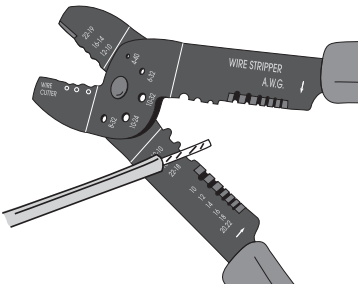

figure 3
1. Strip wires over 1 cm (½ inch) (**figure 3**).